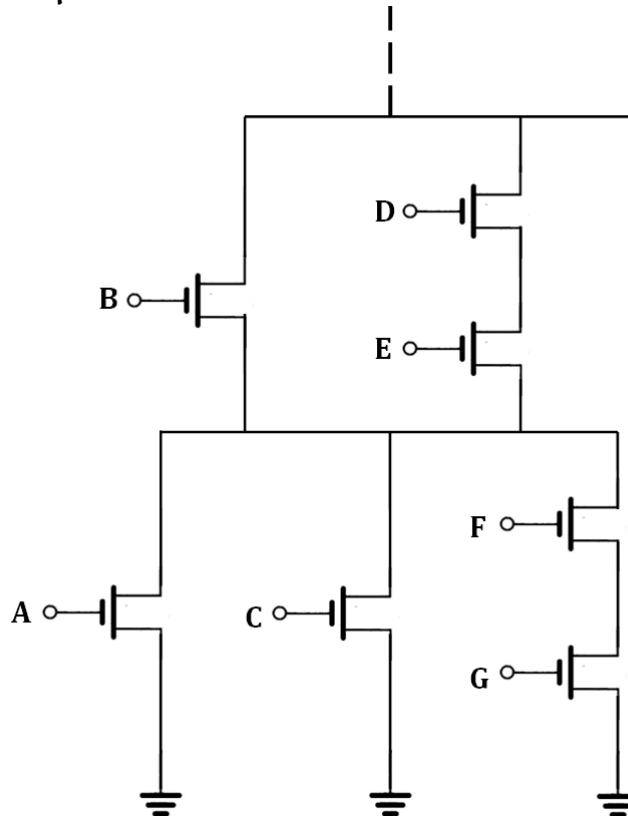

Fig. 2: Pull-down section of the CMOS logic gate
- 8) Consider the NMOS pull-down section of a CMOS gate in Fig. 2. Draw the pull-up section of this gate. Write the expression of the logic function performed by this CMOS gate. Provide transistor **(W/L) ratios** such that the worst case gate delay is equal to that of the basic inverter. Assume that the basic inverter has  $(W/L)_N=1.2 \mu\text{m}/0.5 \mu\text{m}$  and  $(W/L)_P=3 \mu\text{m}/0.5 \mu\text{m}$ . What is the total area of this gate if channel lengths  $L_N$  and  $L_P$  are the same as that of the basic inverter, i.e.  $L_N=L_P=0.5 \mu\text{m}$ .